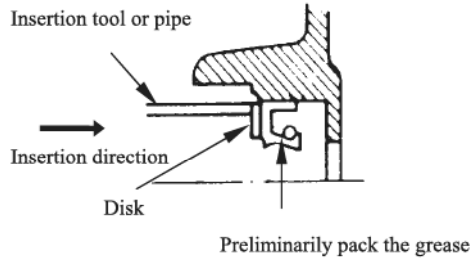

Fig. 8 Oil seal insertion Method
- (1) To reinsert the oil seal, use an insertion tool. As shown in Fig. 8, attach the disc to the oil seal, and then push the oil seal with the insertion tool or pipe to insert the seal into the hole.